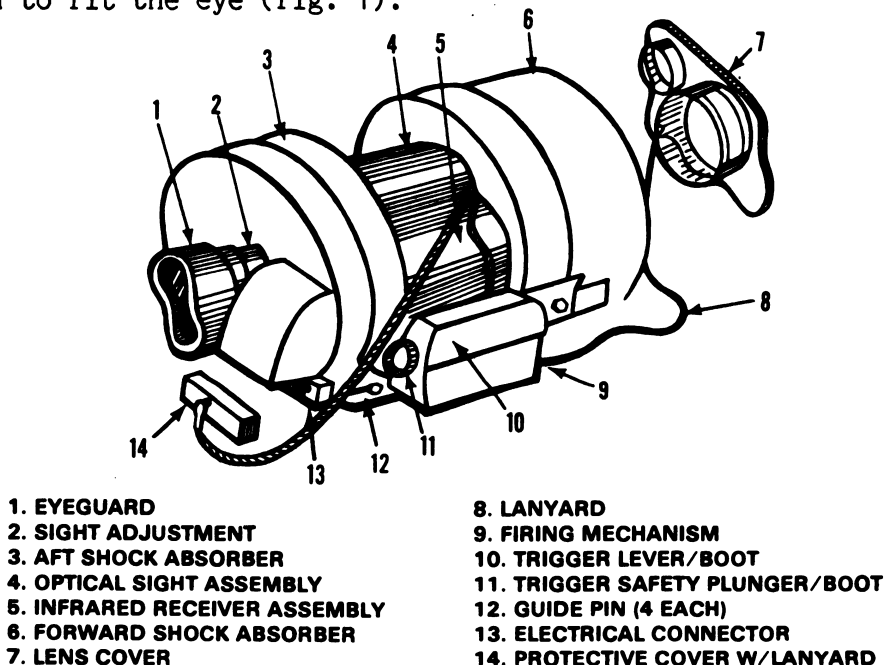

Figure 1
b. Hold the sight adjustment stationary while rotating the eyeguard to fit the eye (fig. 1).